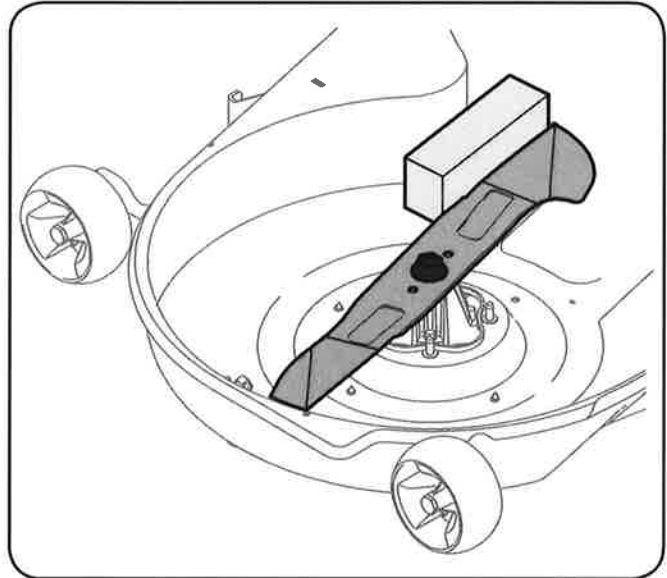

Figure 1-2
3. Stabilize one of the cutting blades with a blade lock tool or a block of wood. See Figure 1-2.